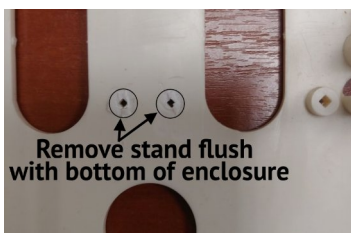
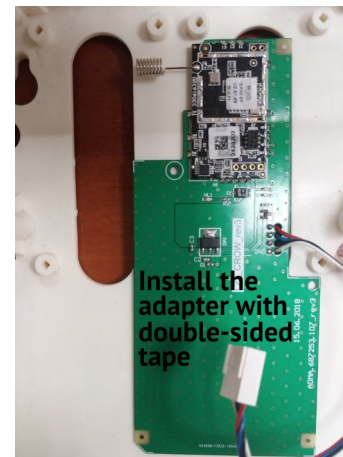

Figure 28. Preparing the device housing for the adapter “L25\_Crow\_rev3”
Figure 29. Adapter «L25\_Crow\_rev3» in the device housing
- “**L25\_CROW\_rev3**” Adapter – prepare a place for adapter (Figure 28) then install the adapter with double-sided tape (Figure 29);